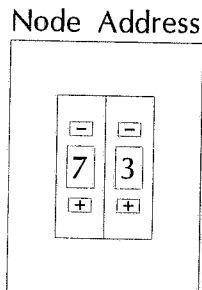

Figure 3 - V160 Node Address Switch
Figure 3 shows the node address switch set to a value of 73_{16} (115). Notice the most significant digit is on the left and the least is on the right.